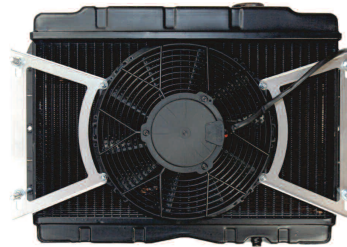

Fig. 2
4. Slide the fan assembly onto the front of the radiator locating it on the four protruding 5/16 bolts, place the remaining washers on to each of the four studs and then fasten down with the Nyloc Nuts supplied (adjust so that the fan is flat on the radiator). (Fig. 2)